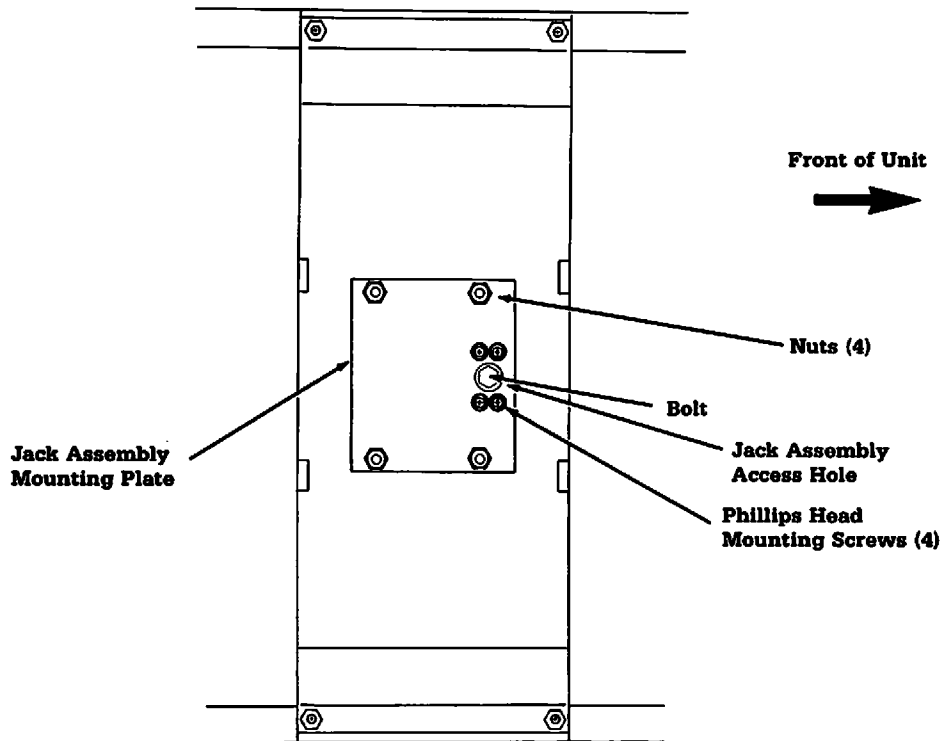

Figure 5-15. Bottom View of 5000 Infant Warmer System (laying on its right hand side).
(See Figures 5-15, 16, 17 and 18)
6. Insert a 1/2 inch, socket wrench through the access hole in the bottom mounting plate and remove the lower mounting bolt (5/16-18). See Figure 5-15.
7. Use a 1/2 inch wrench to remove the four(4) 5/16-18 hex nuts and external lock washers from the assembly base plate. **DO NOT REMOVE THE FOUR PHILLIPS HEAD SCREWS.**